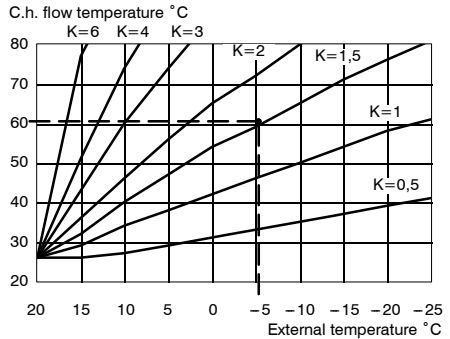
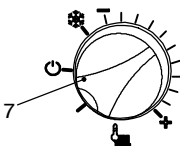

Fig. 7.9
Fig. 7.13
The curves given in the chart of Fig. 7.9 represent the c.h. flow temperature setting as a function of the external temperature measured by the external temp. probe.
The relationship between the external temperature and the c.h. flow temperature is represented by the coefficient K (Fig. 7.9) that can be set between 0 and 6 as hereafter explained.
E.g. to obtain a flow temperature setting of 60 °C when the external temperature is -5 °C, K must be set to 1,5 (dashed line in Fig. 7.9).
After setting the coefficient K, position the knob 7 as shown in Fig. 7.13 in order to obtain the c.h. flow temperature accordingly with the chart of Fig. 7.9.